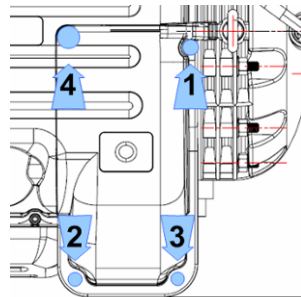

Figure 2 – Mains Input Cover Torque Sequence
4. Place the Mains Input Cover and secure it with the four (4) M5x15 screws. Tighten according to Figure 2 (Mains Input Cover Torque Sequence).